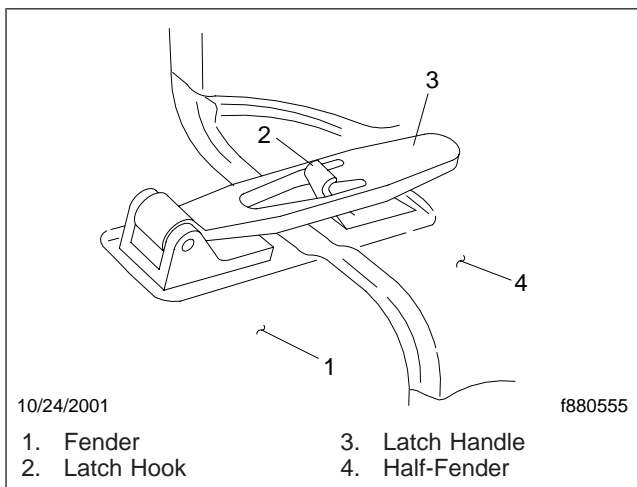

Fig. 2.7, Hood Hold-Down Latch
2. Release both hood hold-down latches by pulling the ends outward. See Fig. 2.7.